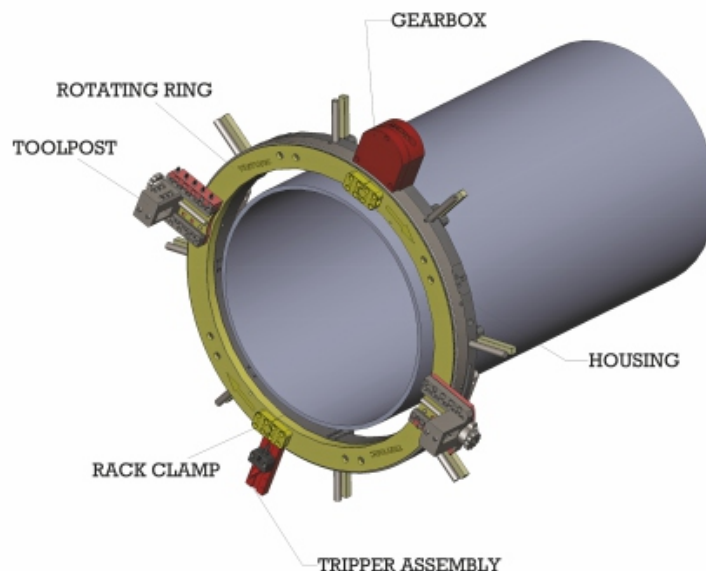

Fig 4.
1. Install the 2 halves of the machine around the pipe and tighten the housing swing bolts and the gear clamp bolts on the cutting head (see Figure 4 above).